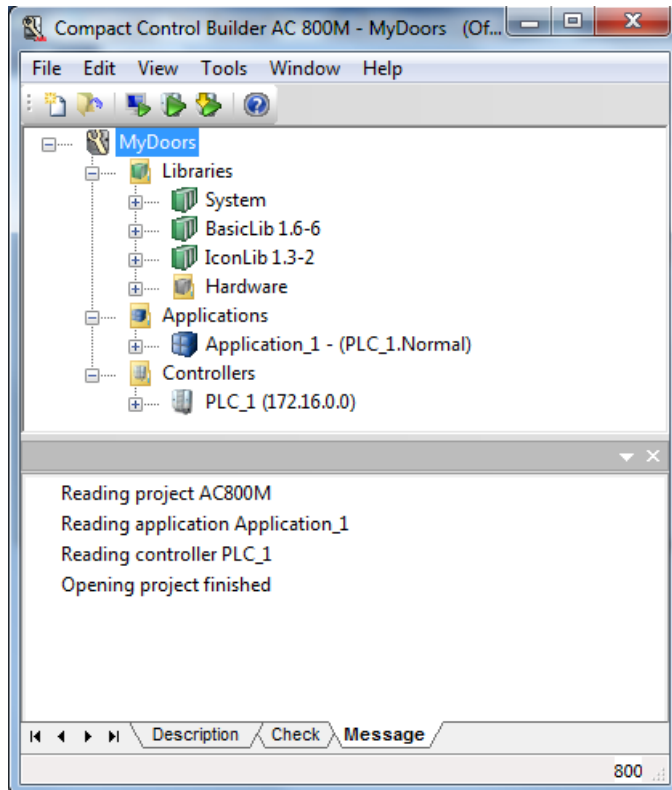

Figure 26. MyDoors project opened in Project Explorer
3. Click **OK**. Project Explorer creates and opens MyDoors project, see Figure 26.